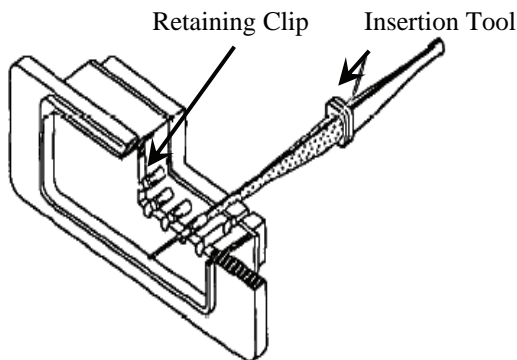

Figure 11. Contact Insertion
g. With firm even pressure, press tool against contact shoulder and seat contact into cavity (Figure 11). A slight click may be heard as retention tines snap into place behind contact shoulder.